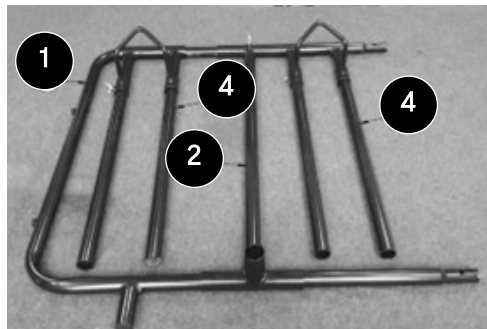

Fig. 3
3. Slide the top bike holders (#4) and I-tubes (#2) into the U-tubes (#1). Refer to Fig. 3.